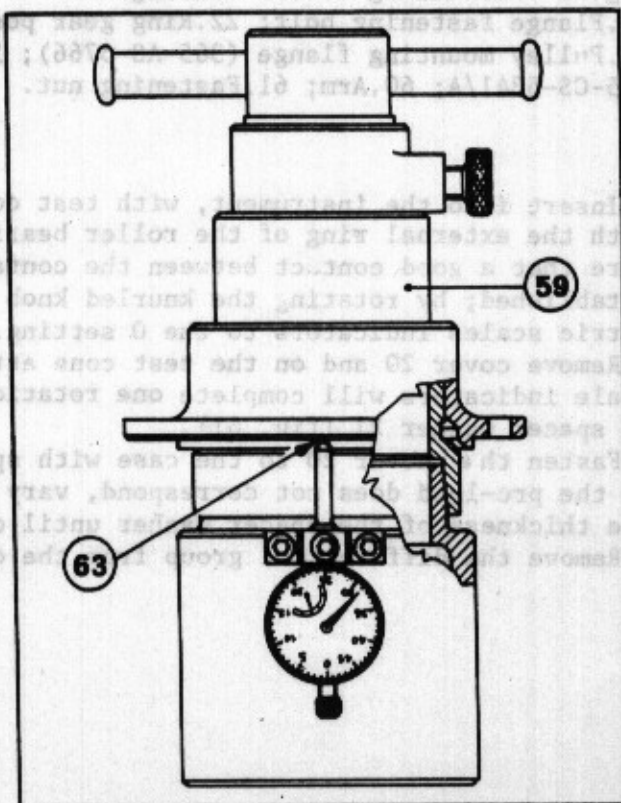

Fig. 61 Determining Thickness 21 using tool 365-CS-5341 a/b.
--Remove cover 20 and on the test cone attach tool 59 removed from the case; the scale indicators will complete one rotation which will correspond to the thickness of spacer washer 21 (fig. 61).